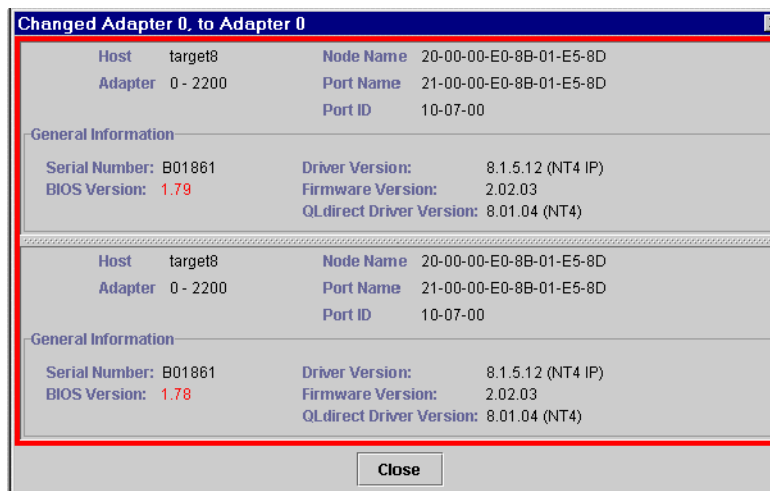

Figure 7-22. Changed Components Comparison
-  Click the magnifying glass button to show differences between the selected components (see figure 7-22). You can also right-click the component name in the **Differences Between Online Host and Offline Host** dialog box to show the differences.